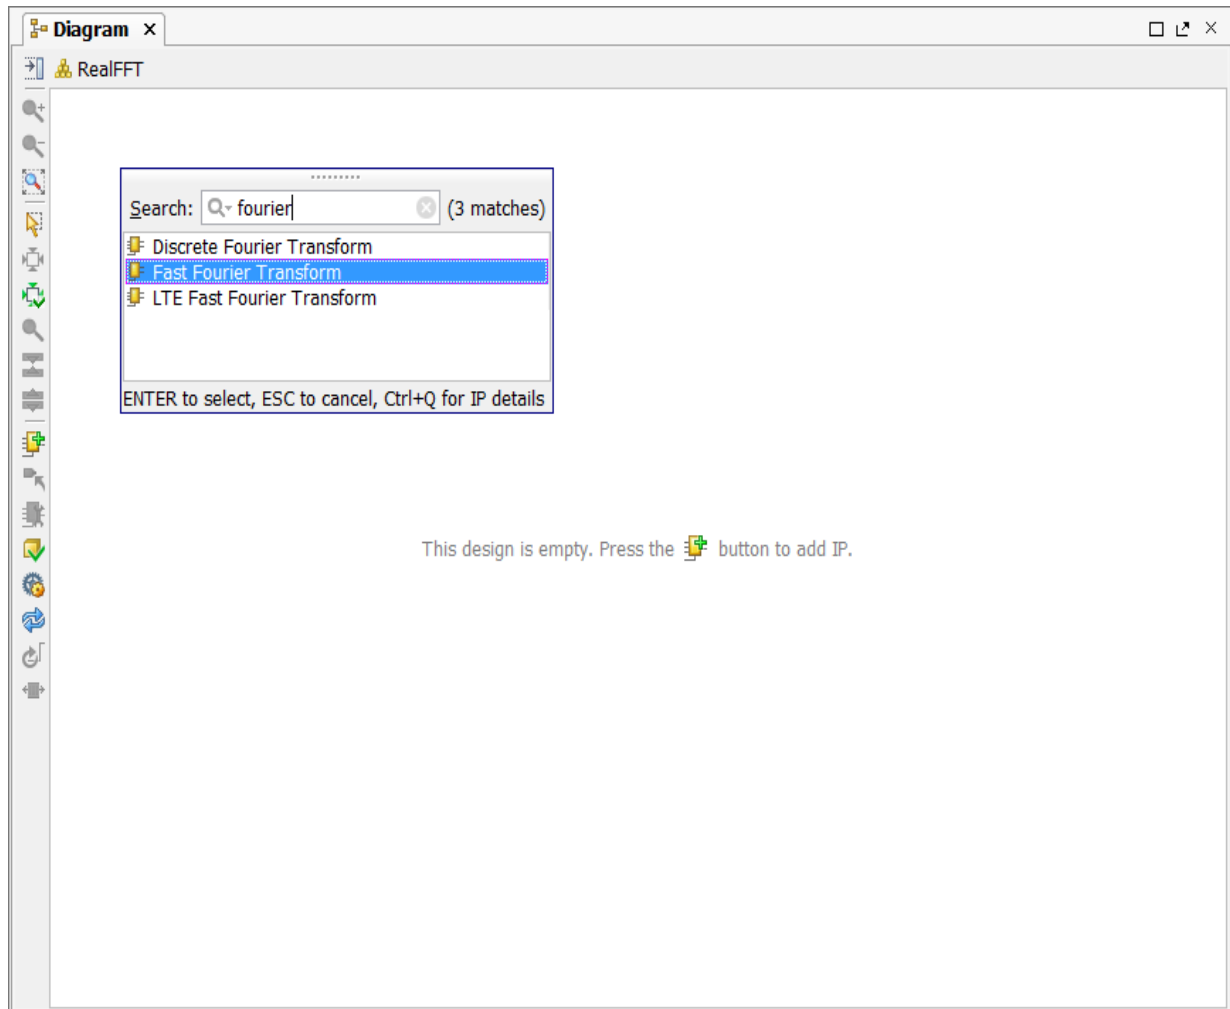

Figure 9-12: Add the Xilinx FFT IP
2. In the Diagram tab click the **Add IP** link (Figure 9-12).